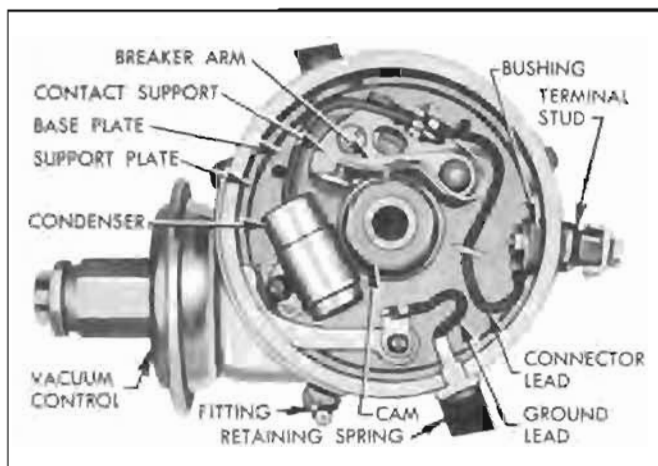

Figure 10-74—Distributor Parts
1. Remove rotor and breaker plate ground lead, then remove the vacuum control. See figure 10-74.
5. Install terminal stud and bushing, and attach connector lead to stud. See figure 10-74.